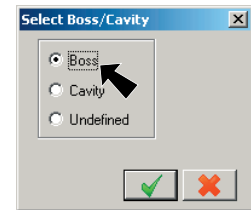

Fig. 67
Step 4. Click Boss and OK , Fig. 67.